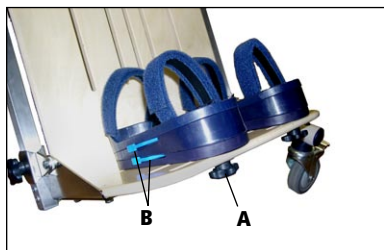

Figure 9
To adjust the sandals, loosen the knobs (A), move the sandals to the desired position, and tighten the knobs. The sandal height can be built up, or a toe/heel angle achieved, by using one or more wedges. (see Figures 9 and 10)